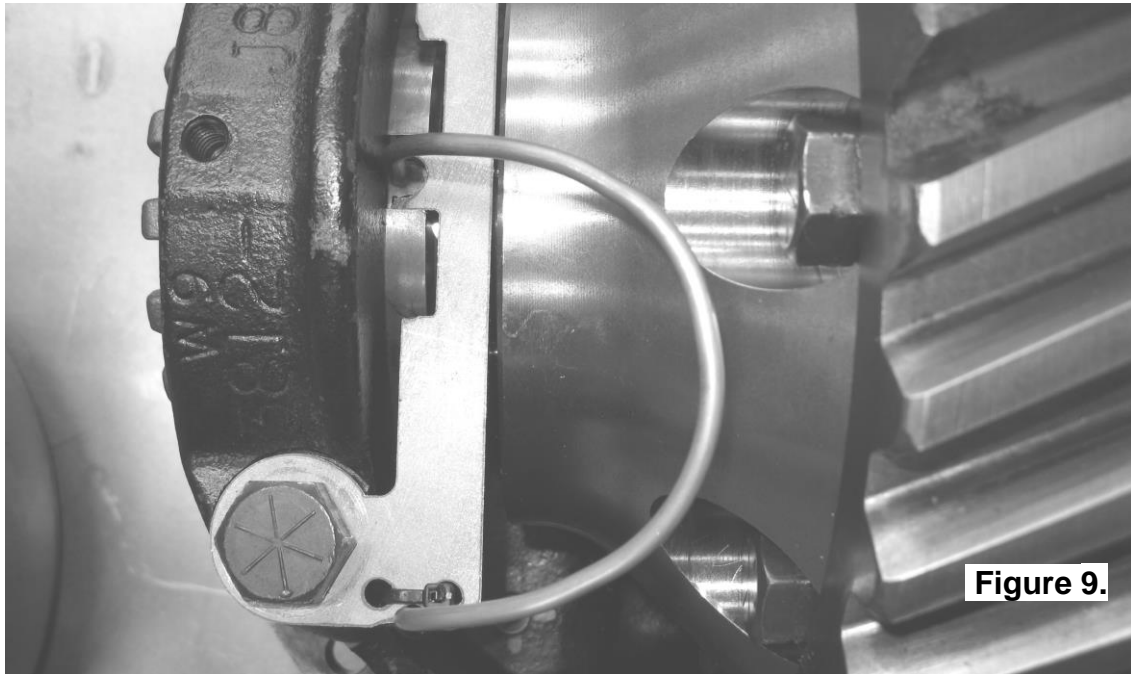

Figure 9.
- Without using sharp, jagged tools such as pliers (your hands are the best tool for this job), gently bend the seal housing tube so that it runs in a loop beside the flange cap and out through the tapped bulkhead port as shown in Figures 9., 10., and 11.